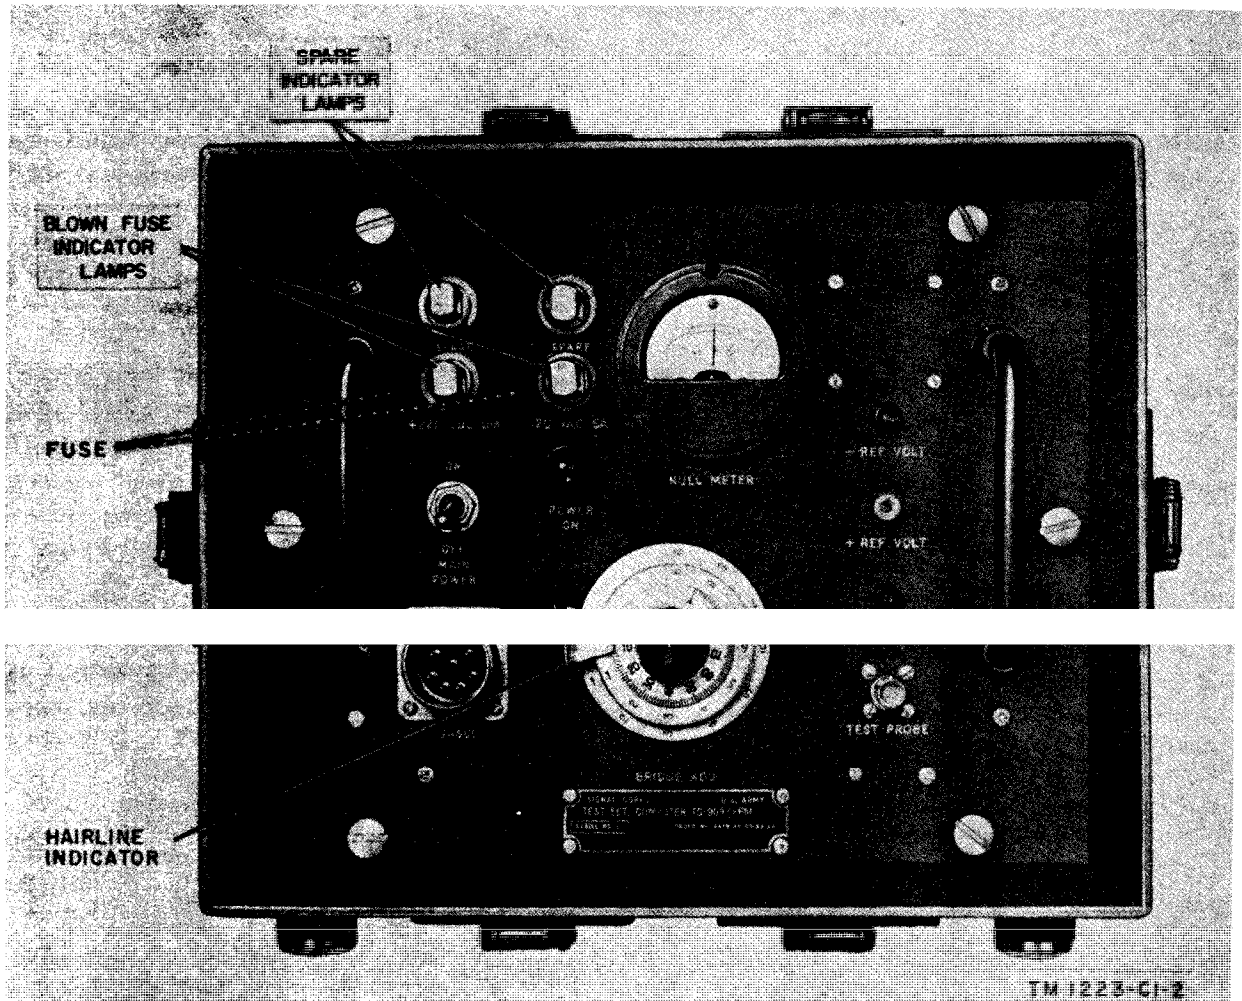

Figure 4.1. (Added) Test Set, Computer TS-909/PPM (Order No. 4438-PP-60), front panel.
- (2) Use an Allen wrench to loosen the two setscrews that hold the inner dial to the potentiometer shaft and remove the inner dial.
- (3) Loosen the two screws that hold the hairline indicator (fig. 4.1) and remove the hairline indicator.
- (4) Use the Allen wrench to loosen the two setscrews that hold the intermediate dial to the potentiometer shaft. Remove the dial together with the two rubber seal